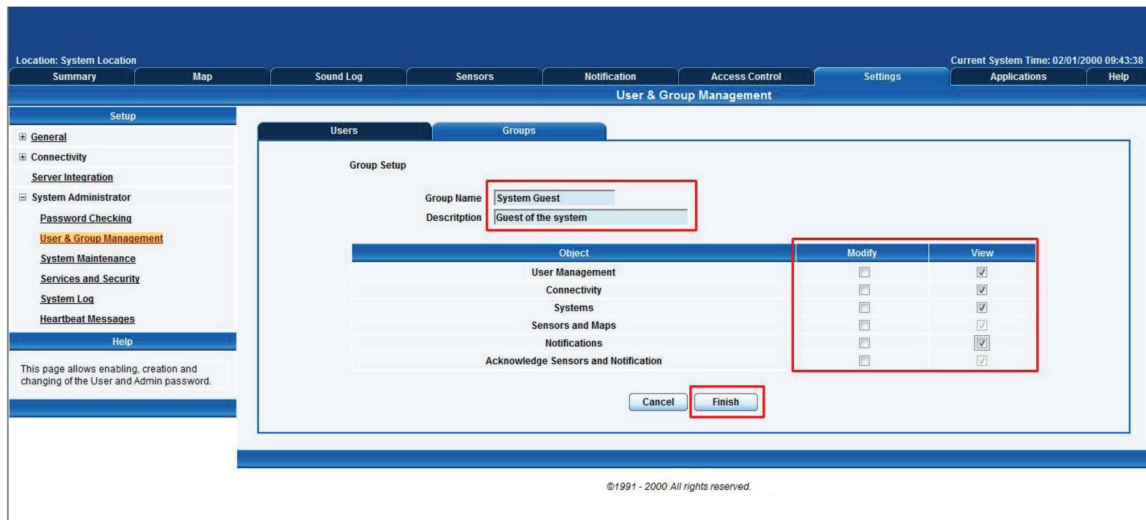

Figure 3-15. User & Group Management screen.
6. Check the objects with the Web interface that this group will be able to Modify and View. Then, click the “Finish” button to save your group. (See Figure 3-15.)